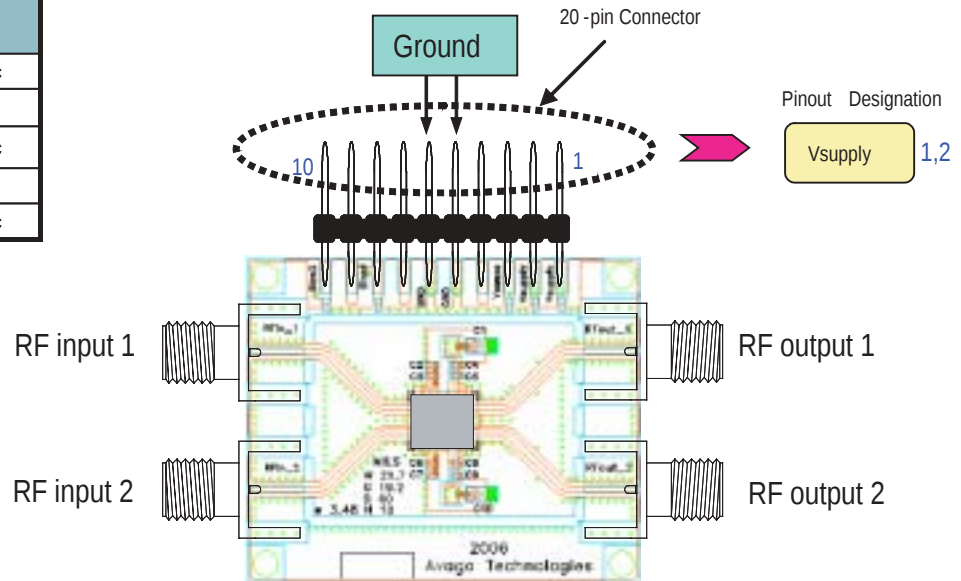

Figure 5. Demo Board Layout Diagram
$T_A = 25\text{ }^{\circ}\text{C}$, $V_{dd} = 5\text{V}$ @ $V_{ctrl} = 2.2\text{V}$, RF performance at 2.0 GHz, given for each of the 2 RF paths, measured on demo board (see Fig. 5) unless otherwise specified.
- Measurements at 2GHz obtained using demo board described in Fig 5.